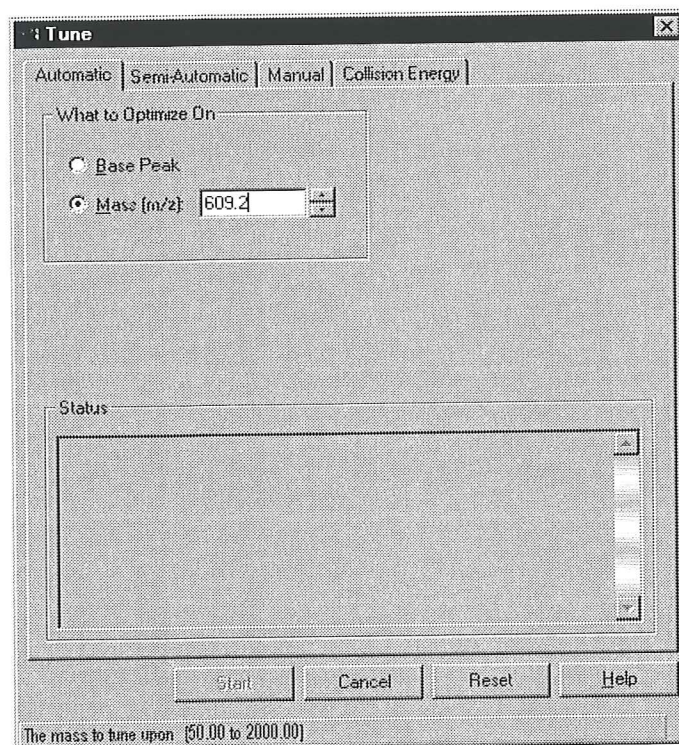

Figure 3-7. Tune dialog box, showing reserpine parent mass
- a. Open the Tune dialog box - Automatic page: Click on the Tune button. Then, click on the Automatic tab. See Figure 3-7.